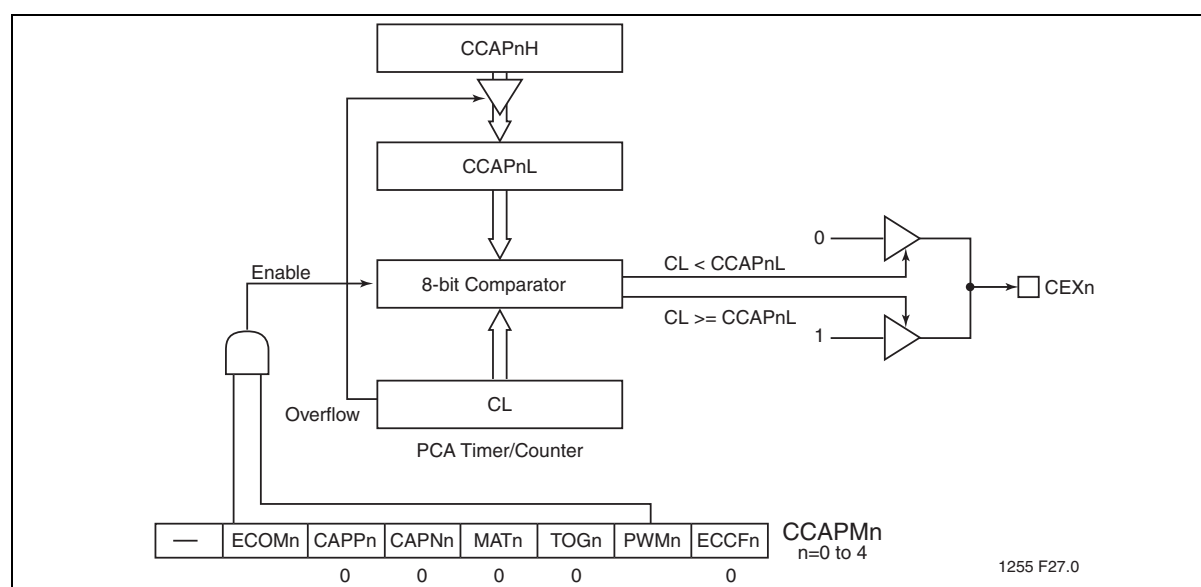

Figure 28:PCA Pulse Width Modulator Mode
The Pulse Width Modulator (PWM) mode is used to generate 8-bit PWMs by comparing the low byte of the PCA timer (CL) with the low byte of the compare register (CCAPnL). When $CL < CCAPnL$ the output is low. When $CL \geq CCAPnL$ the output is high. To activate this mode, the user must set the PWM and ECOM bits in the module's CCAPMn SFR. (See Figure 28 and Table 23)